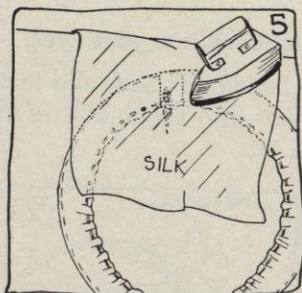

FIG. 5.
- a. Put a piece of silk, preferably the color of the ribbon, over the ribbon, and press from the steel wire toward the shirring in the inner selvage. If your ribbon is still wet, (if not moisten it) you will be able to press all of the fullness out in this manner. Press until dry (see Figure 5).